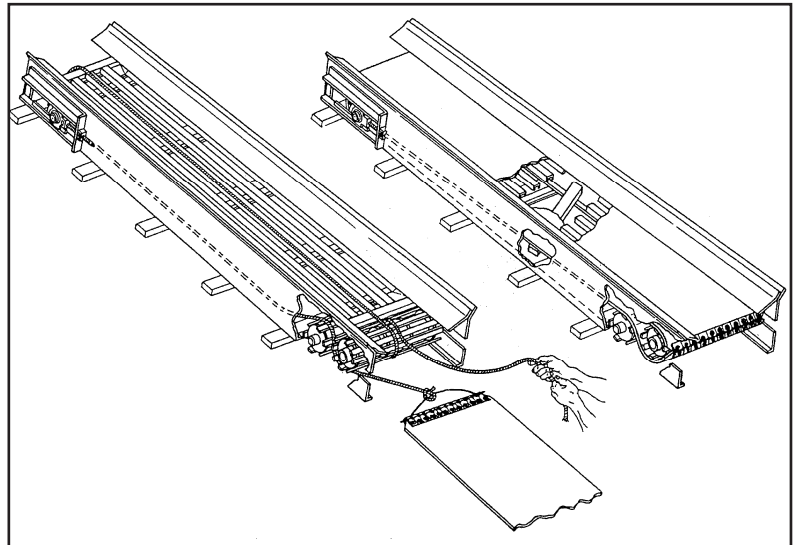

Figure 8 – #5 Belt Installation
12. Shut off all power and insert lumber under belt to support its weight as shown in Figure 8.